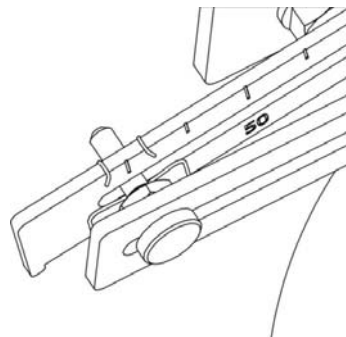

Figure 6
4. Secure the spiral spring to the lever. See figure 6